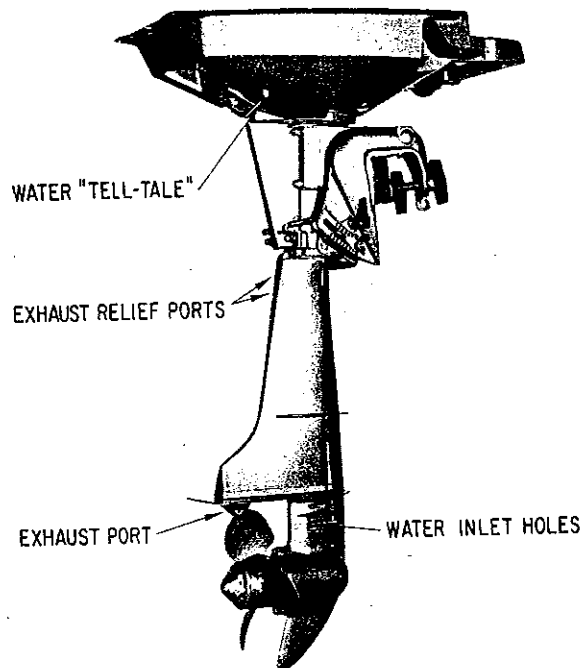

Figure 15. View showing typical locations for checking cooling system operation.
- A. The water pump is provided to cool and condense exhaust gases. This pump is located in the column just above the gear housing and the water inlet holes are on each side of the gear housing just below the cavitation plate. (See Figure 15.)